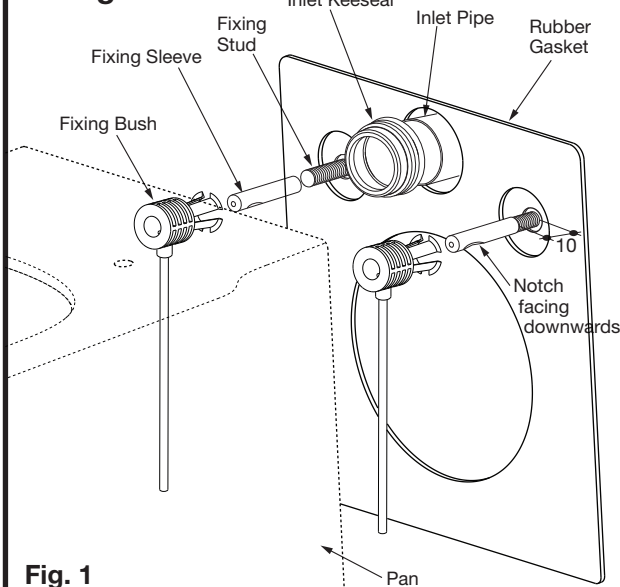

Fig. 1
- 7- Fix the Fixing Sleeves onto Fixing Studs so that 10mm of thread is exposed in front of the Rubber Gasket, as detailed in **Fig. 1**.